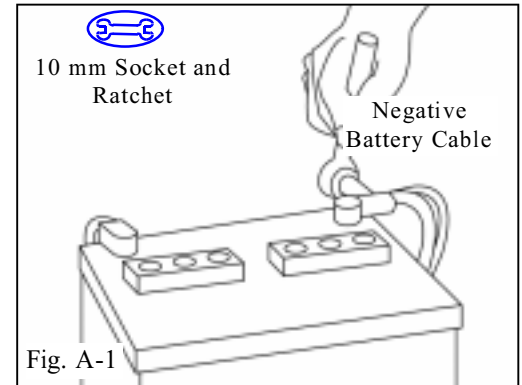
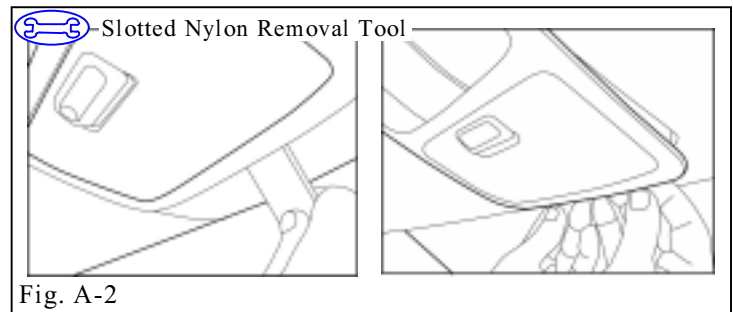

Fig. A-1
Fig. A-2
1. Remove the negative battery cable. (Fig. A-1)
- iii. Wait two (2) minutes before removing "A" pillar trim. Vehicle may have side air bag curtain.
2. Using a nylon removal tool, insert tool at front edge of overhead console bezel and carefully pry down. (Fig. A-2)